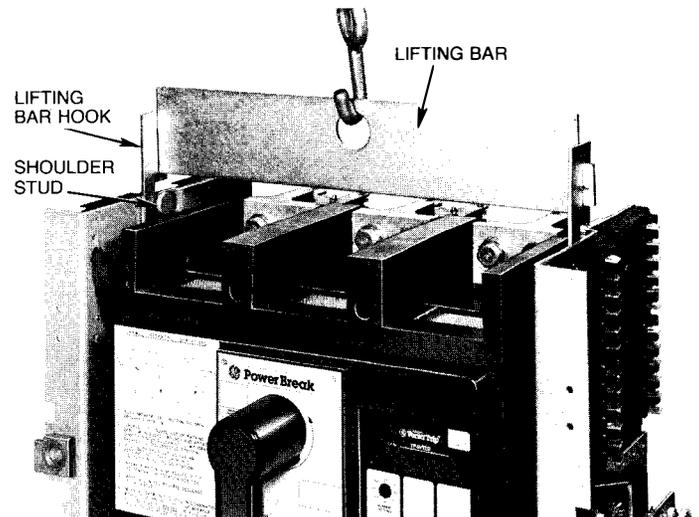

Fig. 4
Lifting Bar. A lifting bar, cat. no. TDOLB, used as shown in Fig. 4, is available to provide safe handling of the draw out breaker.
1. Using lifting bar TDOLB with suitable hoist, locate hooked portions beneath shoulder studs of breaker, Fig. 4, and lift.